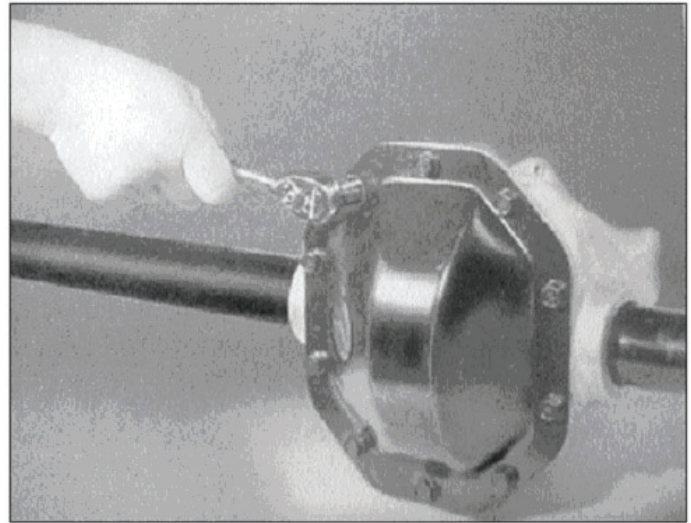

Figure 7-35. Carrier Cover
1. Remove ten cover plate bolts (Figure 7-35).